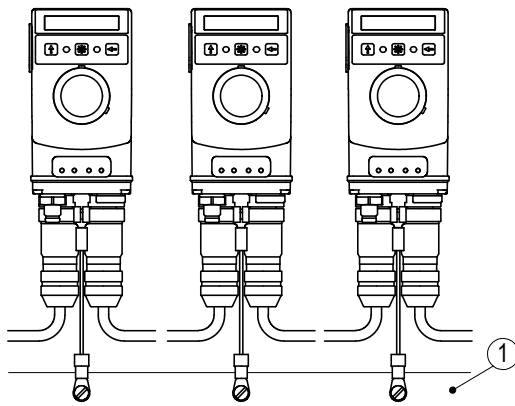

Fig. 5: Ground bar
For protection against interference, the screens of the signal lines and the power line must be connected on both sides. Potential differences cause inadmissible currents on the screen. Install the ground connection ③ onto the protective ground conductor potential between the plug connectors (see Fig. 4). Use 6.3 mm flat connectors or cable lug with short strands 2.5 ... 4 mm² (not in the scope of delivery). For multiple position indicators we recommend connecting the grounding to a ground bar ① (see Fig. 5).